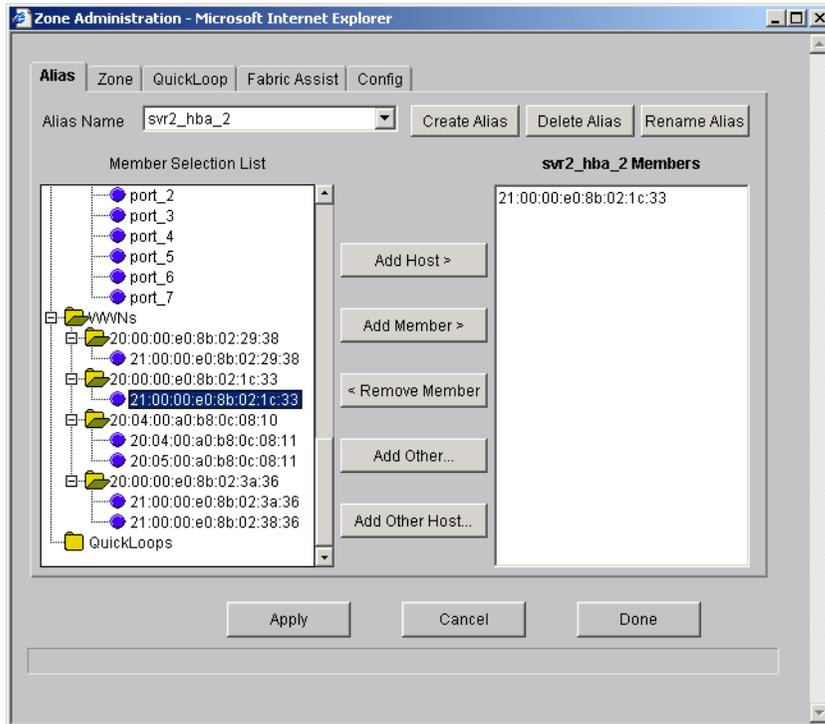

Figure A-9 Create Alias
3. Create aliases for the two adapters in this server. Our server name is SVR2 and the adapters are called SVR2_HBA_1 and SVR2_HBA_2. This is shown in Figure A-9: